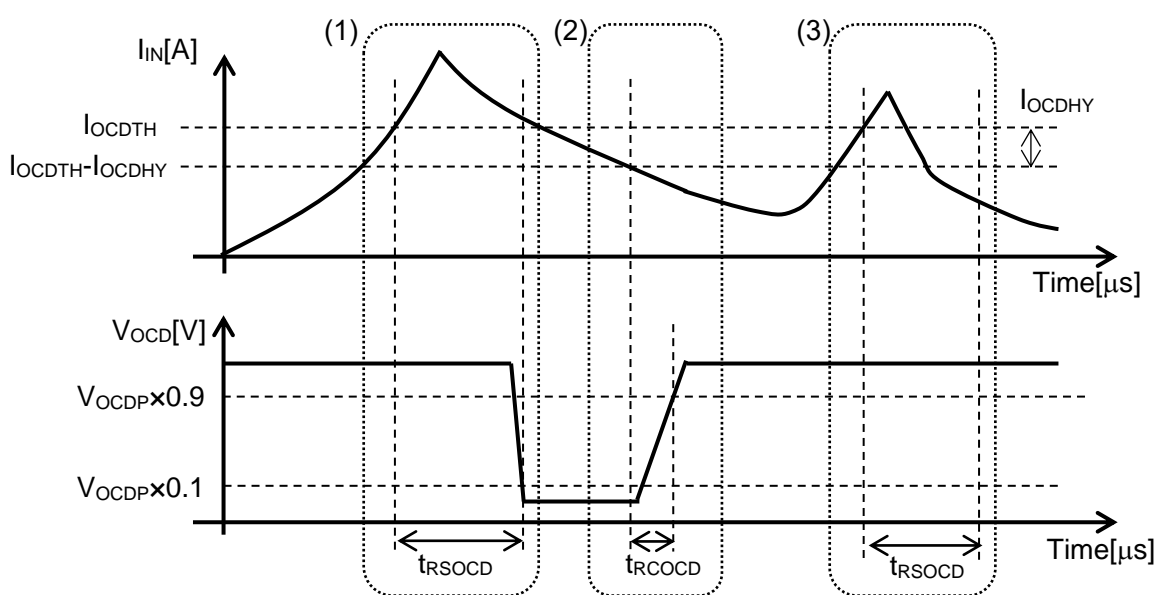

Figure 6. Overcurrent Detection Function of CZ-3AG5
10.4. Overcurrent Detection Function is operated as below. (See figure 6.)